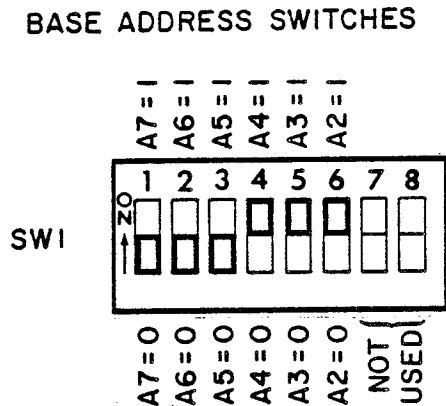

Figure 3: BASE ADDRESS LOGIC LEVELS
switch ON causes the 4PIO to respond to a logic 1 level on its corresponding address line; an OFF switch responds to logic 0 (see Figure 3).
- Setting Base Address switches A7 thru A5 OFF and A4 thru A2 ON (as in Figure 3) maps the 4PIO into port addresses 1CH (port 0) thru 1FH (port 3).